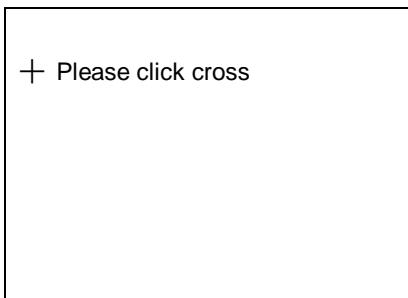

Fig 2.8
- ① Select **Settings** from the main menu, and then select **TouchSet**, the screen should be displayed as shown in Fig 2.8:
- ① Turn off Star Auto Scanner first.
- ② Wait for more than 5 seconds and then turn on Star Auto Scanner.
- ③ Press the company logo "AUTOBOSS" with the touch pen for several seconds until the Fig. 2.8 is displayed, then just click on the center of the cross following the screen instruction.